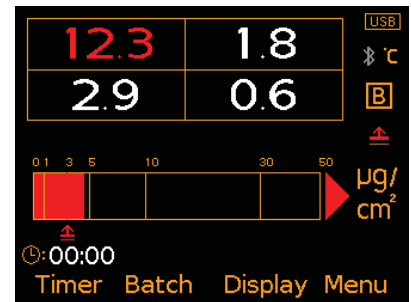

Fig. 5: Readings x4 & Bar Graph
- **Bar Graph** (Fig. 5); An analogue representation of the current measurement value together with the highest (Hi), lowest (Lo) and average ( $\bar{x}$ ) reading. The graph is updated automatically when each reading is taken.